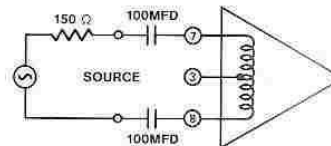

Figure 4. Decoupling Phantom Supply
2. Install two 100-microfarad capacitors between the source and the 1588C as shown in Figure 4.